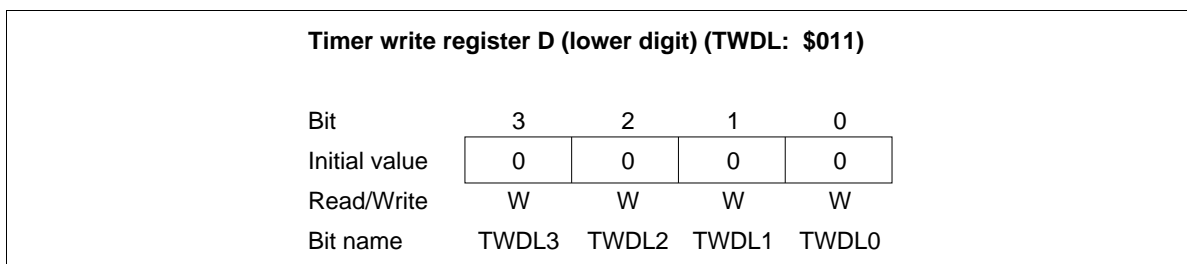

Figure 61 Timer Write Register D Lower Digit (TWDL)
- **Timer write register D (TWDL: \$011, TWDU: \$012):** Write-only register consisting of a lower digit (TWDL) and an upper digit (TWDU) as shown in figures 61 and 62. The operation of timer write register D is basically the same as that of timer write register B (TWBL: \$00A, TWBU: \$00B).